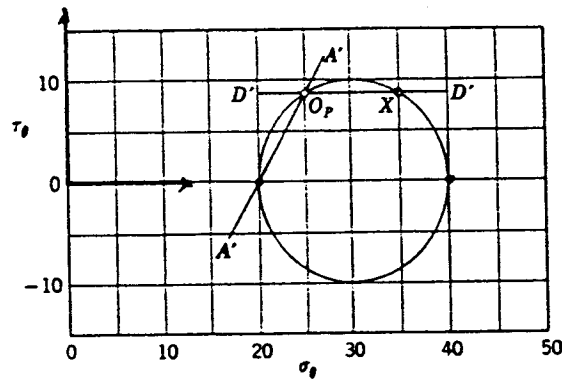

Fig. E 2.2
1. Locate points $(40, 0)$ and $(20, 0)$ on Mohr diagram (Fig. E 2.2).